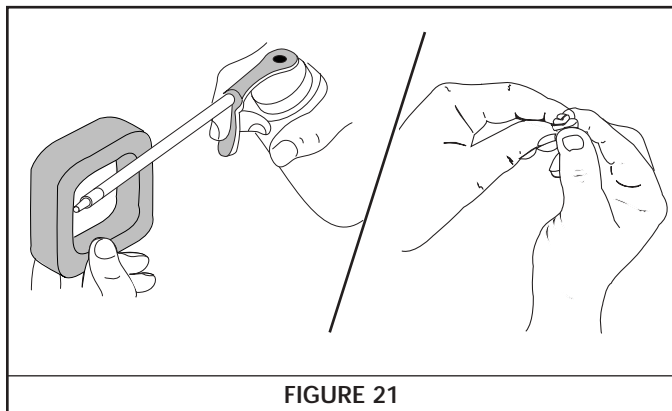

FIGURE 21
4. Apply enough clean SAE 30 motor oil to lightly coat the filter. See Figure 21.
5. Squeeze the filter to spread and remove excess oil. See Figure 21.